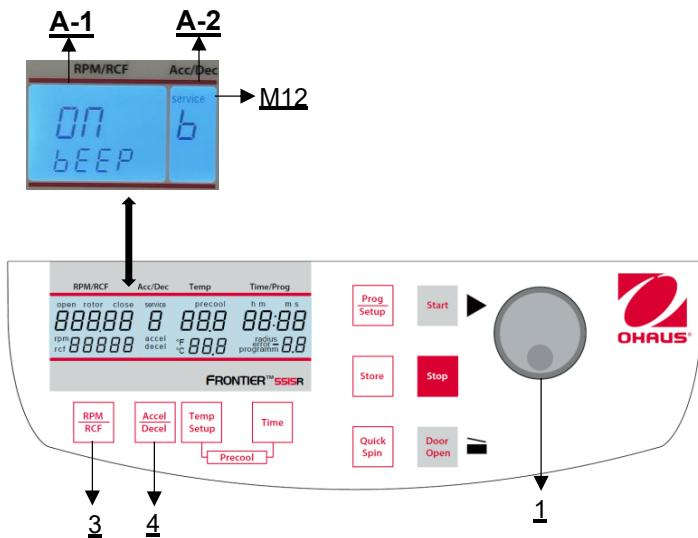

Figure 34
Proceed as described under point 4.1.1 to enter this program mode and then press the key "Accel/Decel" (4). In the display "Acc/Dec" (A-2) the word "Service" (M12) flashes. Now select the letter "b". with the adjusting knob (1). As a result, in the display "RPM | RCF" (A-1), the word "ON/BEEP" appears. After pressing the key "RPM | RCF" (3), you can turn the keyboard sound (On) or (Off) with the adjusting knob (1) (see figure 34).